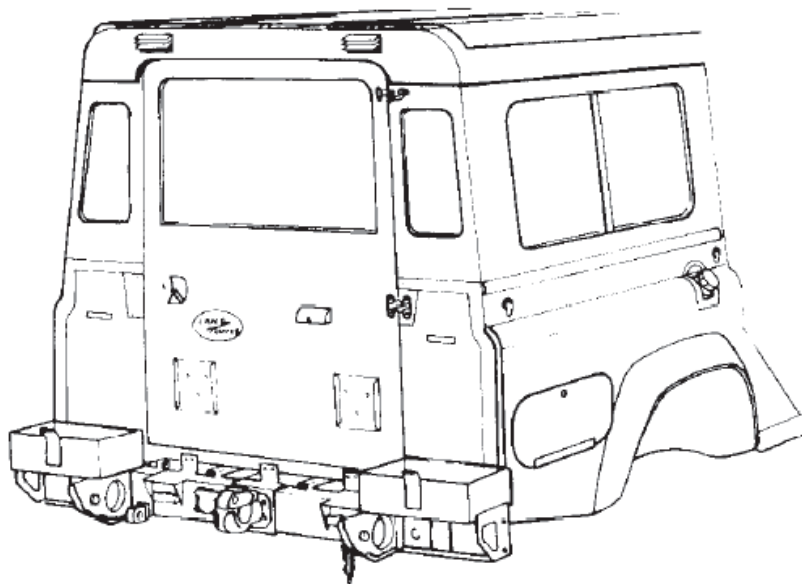

Figure 2 Rear Body
7. **Rear Body.** The rear body (Figure 2) utilizes a steel frame and pressed aluminium panels. These panels are riveted together to form the rear lower body and the upper body including the roof. Access to the rear inward facing seats is provided by opening the one-piece steel frame door, which is hinged to the rear body and roof rear panel. The rear body is secured to the chassis by four mounting brackets and to the rear crossmember by bolts.